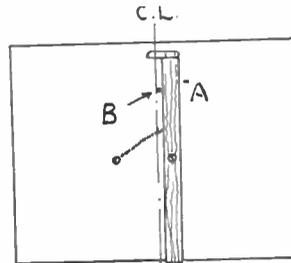

Fig. 2
An interior view of the front is given in Fig. 2 to show the locking arrangement. This is a strip of $\frac{1}{2}$ in. by 1in. wood (A) fitted to the front with a single round-headed screw, situated about midway, upon which it can swing sideways. To the top of this a metal catch filed up from a piece of sheet metal and measuring 2ins. in length and $\frac{1}{2}$ in. in width, is screwed. This metal piece passes through the eye of the screw eye and locks the lid, as in detail sketch, Fig. 3. Some little adjustment between the positions of strip (A) and the screw eye will be necessary to ensure the locking arrangement working satisfactorily. Make sure (A) is long enough to pass through the bottom of the box and project a trifle, say, $\frac{1}{4}$ in. below.